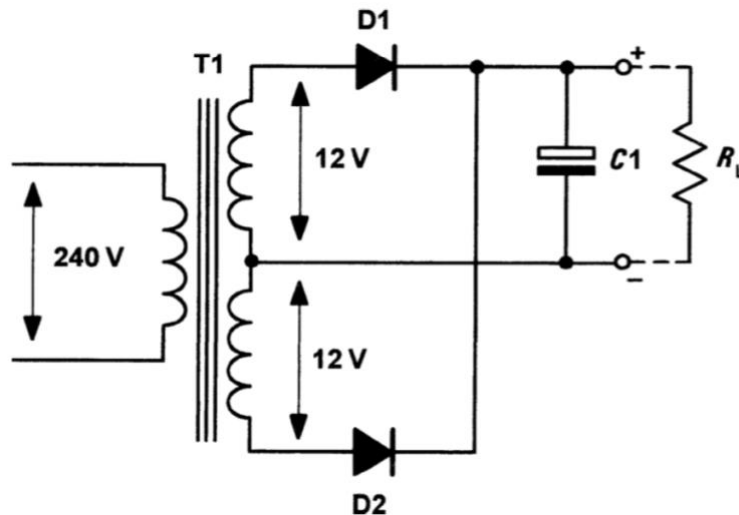

Figure 1.12 Bi-phase rectifier with reservoir capacitor
- Fig. 1.12 shows how a reservoir capacitor ( $C_1$ ) can be added to ensure that the output voltage remains at, or near, the peak voltage even when the diodes are not conducting.